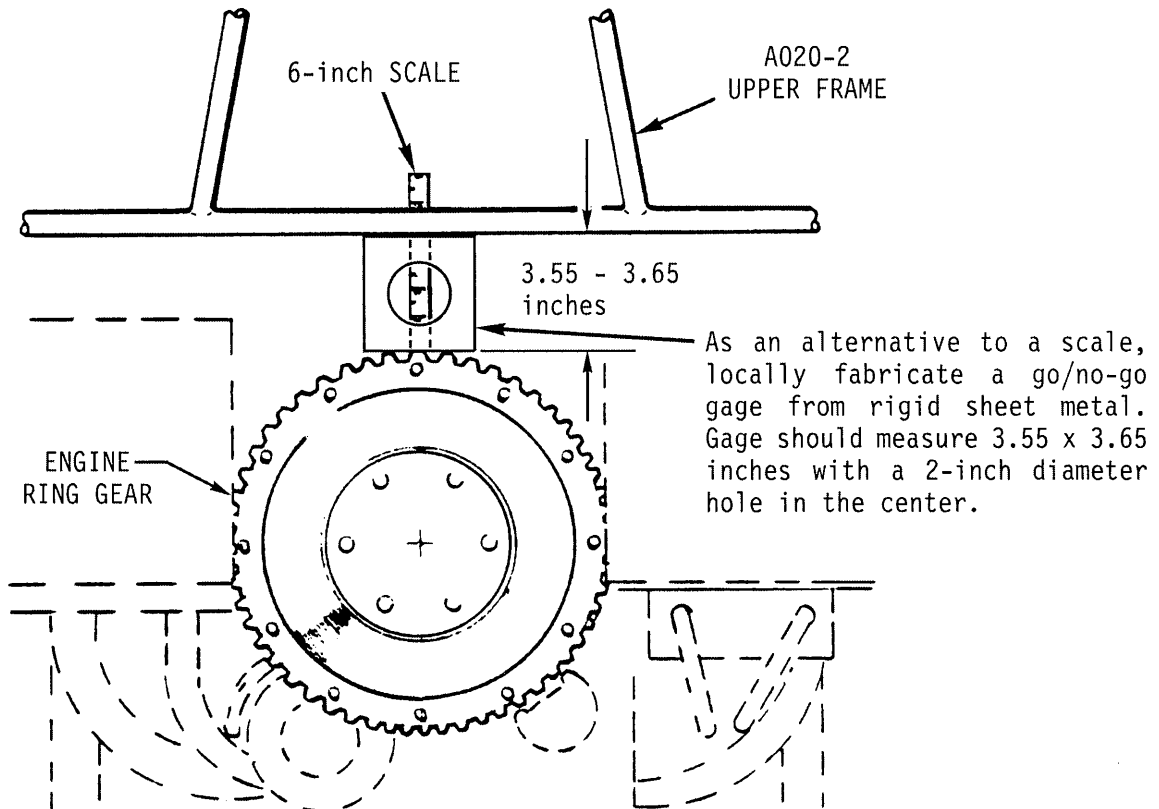

FIGURE 6-2 ENGINE INSTALLATION
2. Measure ring gear-to-upper frame cross tube dimension as shown in Figure 6-2. If dimension exceeds 3.65 inches, an equal amount of shims must be added between lower frames and both the lower-left and the lower-right engine rubber mount pads. Use following formula to calculate required maximum shim thickness:
9. Engage clutch. Verify ring gear-to-upper frame cross tube dimension as shown in Figure 6-2. Adjust as required.